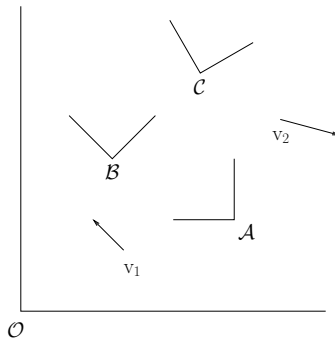

Figure 1: Problem #1 vector setup.
**Problem 1.** [10 pts] Consider the setup depicted in Figure 1. The configurations associated to the different frames are